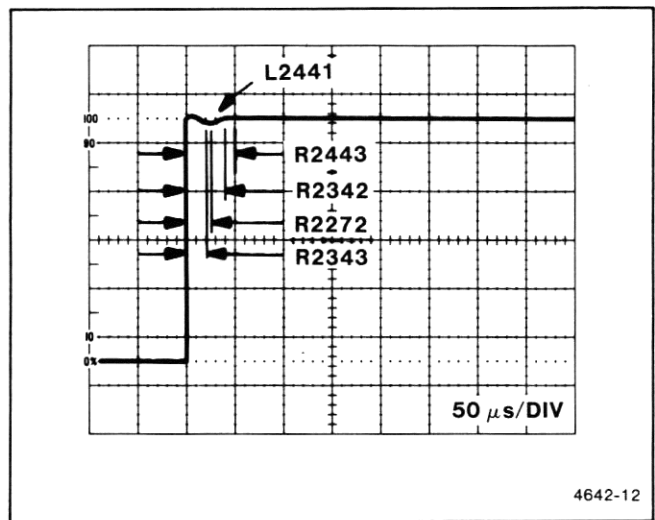

Figure 5-3. Portions of waveform affected by mid-frequency adjustments.
- i. ADJUST - R2443 (R2943) and R2272 (R2772) for a flat-topped square wave. R2443 (R2943) affects the first 50 μ s of the pulse, R2272 (R2772) affects the first 25 μ s. See Figure 5-3.
- j. ADJUST - R2342 (R2842), R2343 (R2843) and L2441 (L2941) for squarest wave-form front corner. R2342 (R2842) affects the first 40 μ s, R2343 (R2843) affects the first 20 μ s, and L2441 (L2941) affects the bottom of the dip at 30 μ s. See Figure 5-3.